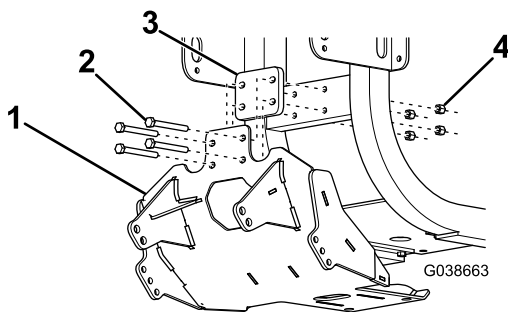

Figure 1
3. Secure the plow skidplate and spacer plate to the vehicle frame using 4 bolts (M10) and 4 nuts (M10), and leave the fasteners finger-tight (Figure 1).